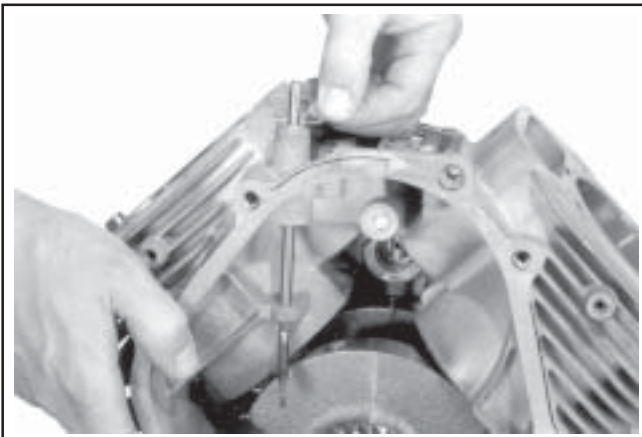

Figure 9-74. Removing Governor Cross Shaft Hitch Pin (6 mm Shaft Design).
1. Remove the hitch pin and plain washer, or the retainer and nylon washer from the governor cross shaft. See Figures 9-74 and 9-75.